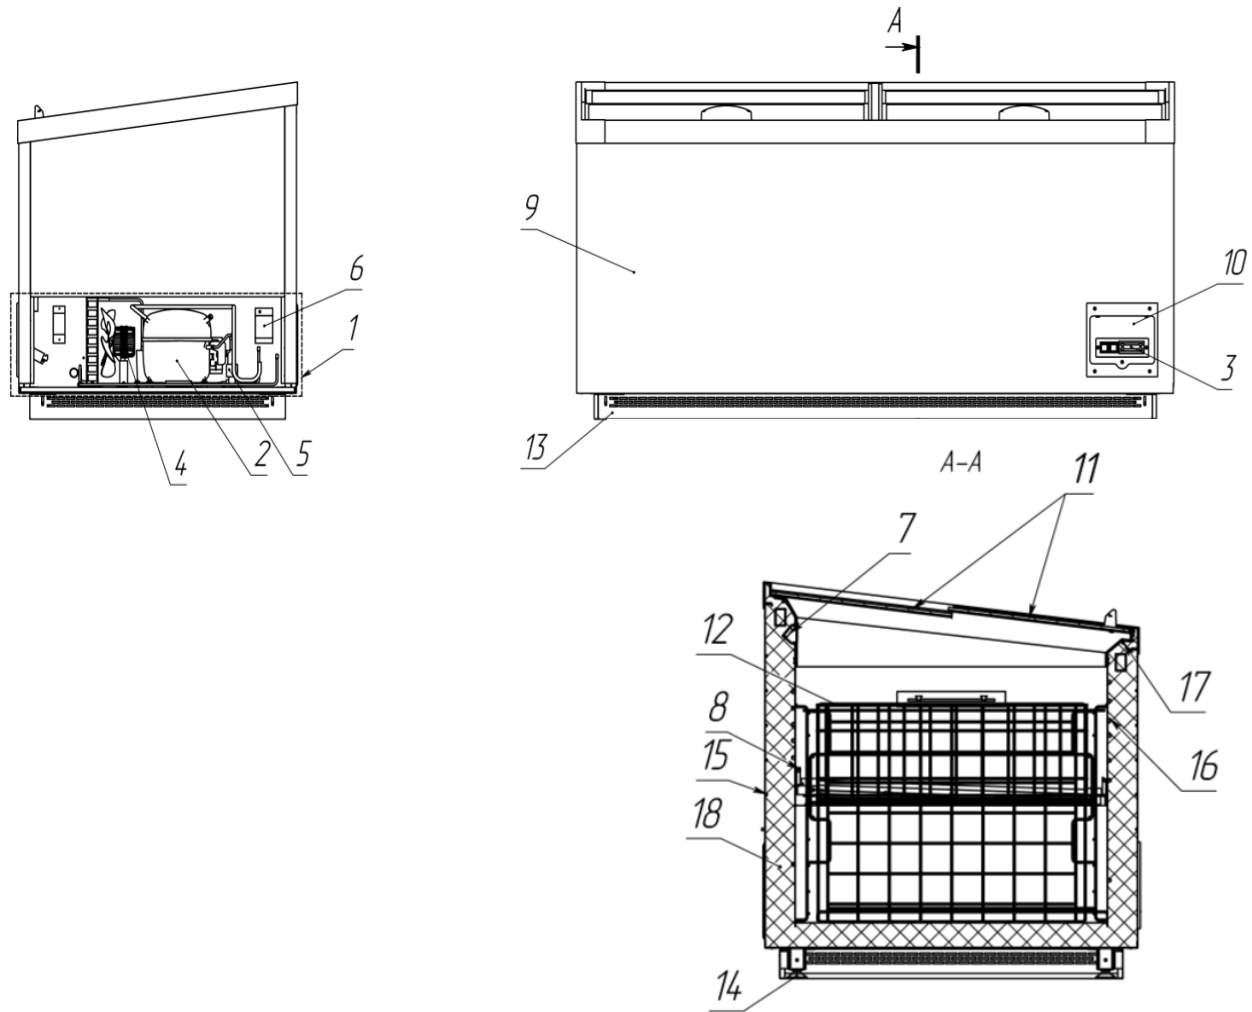

Figure 2 – Arrangement of major units and components
- set the power switch on the control panel (pos. 6 Fig. 2) to the position corresponding to “ON”. Turn on the lighting switch;
On the face of the controller panel e display and three buttons control buttons (see Figure 2.)